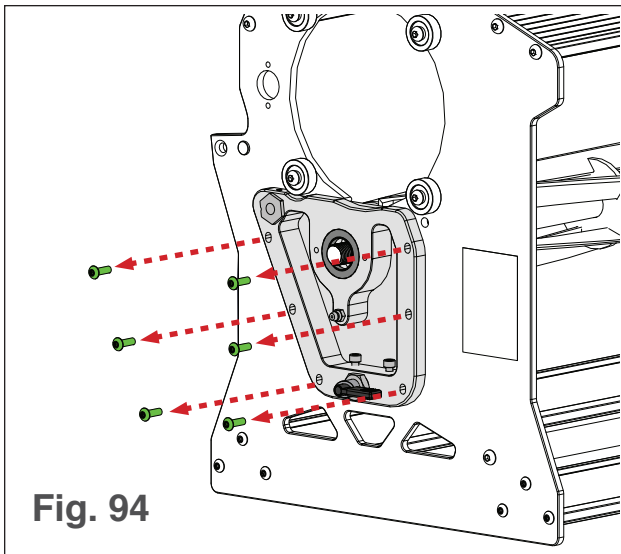

Fig. 94
14. Remove the six outer bolts on both blade end plates (see Fig. 94).